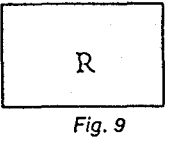

Fig. 9
(9) Switch the single color switch to R and verify the single color. Fig. 9
(10) When one of the colors does not become the single color correctly, check by repeating Items 7 and 8 based on the single color not coming into adjustment.